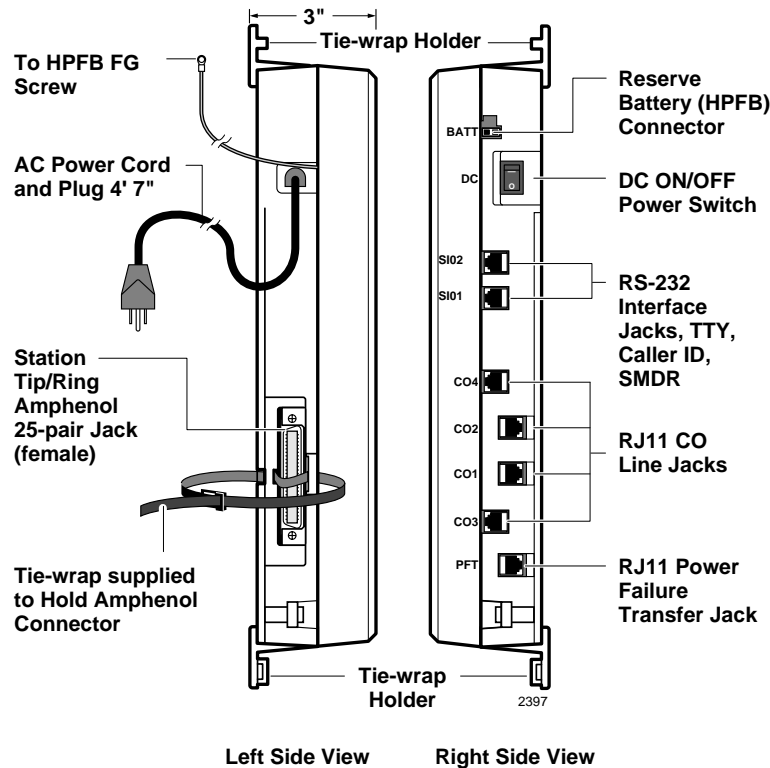

Figure 1-6 DK14 Side View and Jack Locations
9. Connect applicable wiring (modular CO line cords, 25-pair amphenol connector cable, etc.) to the KSU. Route the wiring as shown in Figure 1-6, and then fasten wiring to the unit with the tie wraps that come with the KSU. (See Figures 1-16~1-18 for additional wiring details.)
Note Figure 1-6 shows cables routed to the right; they may also be routed to the left, depending on the location of the MDF.